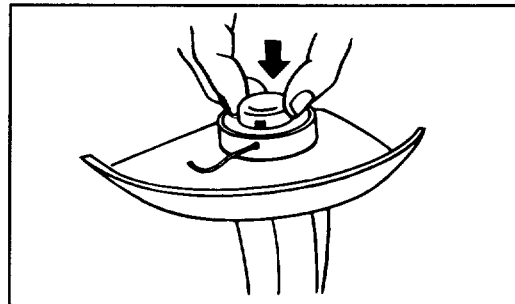

Figure 21
- 3. If line should tangle or break at eyelet, refeed cutting line through eyelet by pushing spool in as far as it will go and threading line back through eyelet. Or you may remove spool completely, refeed the line through the eyelet, and reassemble spool to trimmer (Fig. 21).